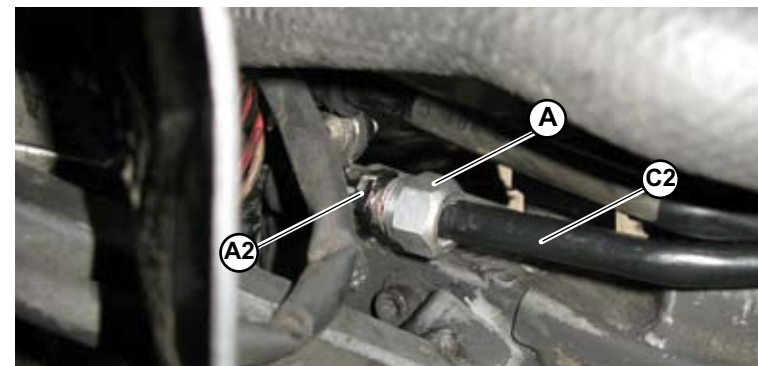

Fig.15
1. Unscrew the nut **(A-Fig.15)** to disconnect the **A2** front return pipe connection from the **C2** power steering circuit central return pipe.